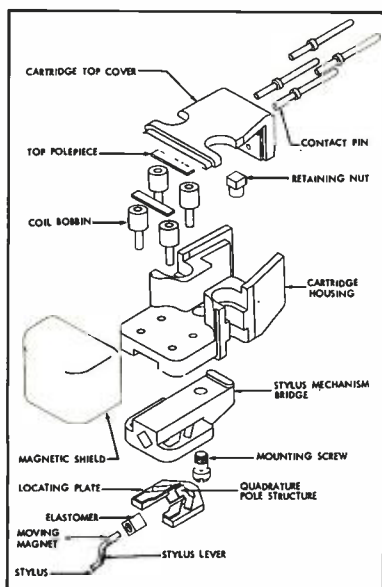

Fig. 1. Exploded view of the pickup.
Now to turn to *Figs. 1 and 2* and an explanation of this form of a compatible stereophonic sound system. Referring first to *Fig. 1*, the circuits between the microphone pickups and their corresponding radio or TV transmitters are
Fig. 1. (below) Block schematic of Precedence system for two channels. **Fig. 2** (right) The same system may be expanded to permit transmission of three compatible channels.
The Audio-Empire moving magnet pickup contains four vertical poles which mount coils as seen in Fig. 1. These vertical poles are mated with a quadrature pole structure, (A) in Fig. 2, designed to develop independent outputs from F_1 and F_2 modes of motion.